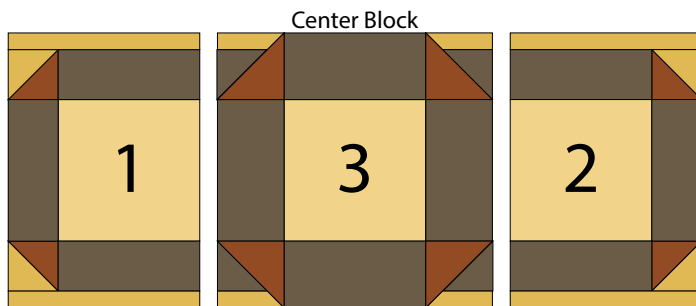

Fig. 17
15. Sew together the (3) rows from Steps 12-14 lengthwise to make (1) 17 " Block Three square.
16. Sew together the Block One rectangle, Block Three square and Block Two rectangle, in that order from left to right, to make the 40" x 17" Center Block (Fig. 17).